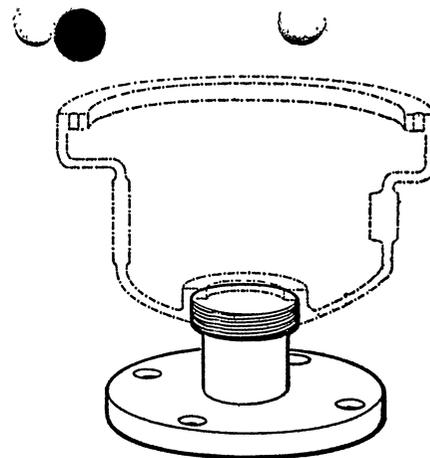

Fig. 7. Top chamber fixture ST.5004
- (2) Mount the top chamber on the fixture ST.5004 (fig. 7). This fixture supports the top chamber whilst the components are being dismantled.
- (3) Unscrew the thirteen countersunk-head screws from the diaphragm support. Remove the support and the orifice filter assembly.
- (4) Unclip the filter guard from the outlet valve cap-nut, and remove the nut. Remove the internal circlip from the nut, and shake out the filter, the support plate and the rubber washer. Remove the gland packing, slack off the outlet valve locknut, and remove the outlet valve and the washer. Unscrew the Schrader valve core from the valve body.
(2) Attach the atmospheric capsule assembly to the other end of the beam, using a second new pivot pin (Ref. No. 27KD/223). Lock the pin by crimping the ends, taking care not to squeeze the sides of the end fitting against the beam.
(3) Place the top chamber casting on the bench fixture ST.5004 (fig. 7). Apply a light coating of sealing compound (No. 1751) to the capsule attachment bolts, then fit the assemblies in the top chamber (absolute capsules to the left when the capsules side of the chamber is towards the operator). Rotate the absolute cap-